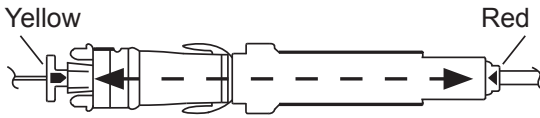

Figure 3: Applicator alignment in probe
9. Advance the Applicator to align the Yellow Indicator (D) with the red arrow of the biopsy probe. Refer to Figure 3.